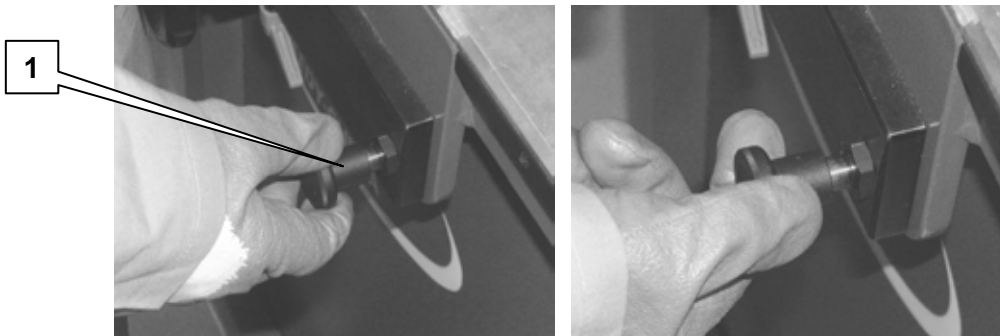

Fig. 4.83 – Pulling out the blocking knob
3. pull out and turn by 90° blocking knob 1 (fig. 4.83);